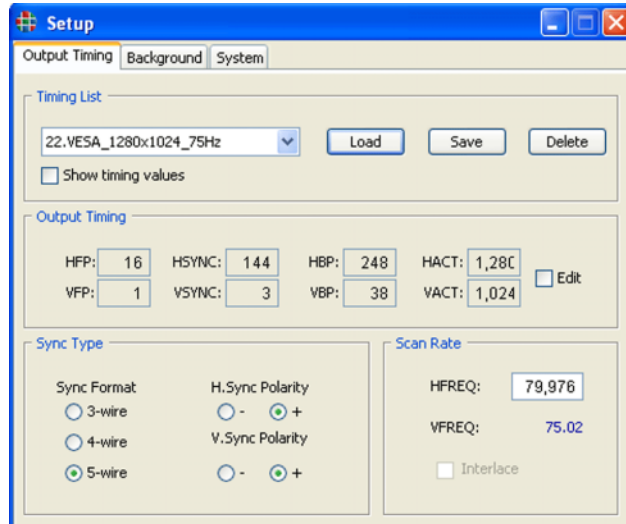

Figure 5-3. WCP Set Up Output Timing Page
- Select the **Output Timing** page (Figure 5-3)